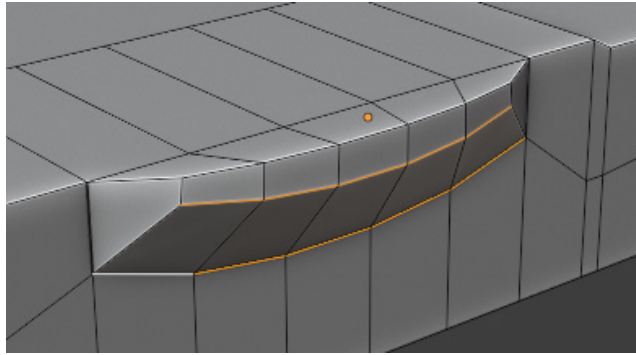

Figure 7.14 – A side shape
- Repeat *Step 13* multiple times to make the edges more relaxed. Do this until your result looks like *Figure 7.14*: